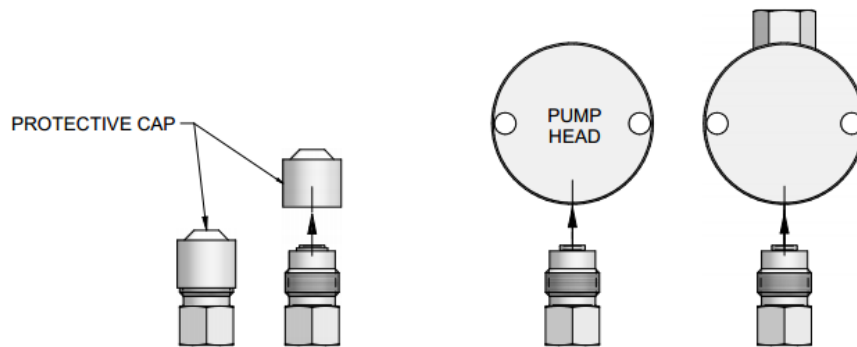

Figure 11, New Check Valves from package and proper orientation.
If this procedure does not return the pump to proper performance, the check valves should be replaced. An example of new check valves from their package can be seen in *Figure 11* below.
3. Hold one new check valve assembly as shown in *Figure 11* and unscrew the protective cap. With the check valve assembly maintained in the above position, thread it into the proper pump head port until it is snug. Install the other check valve assembly similarly.